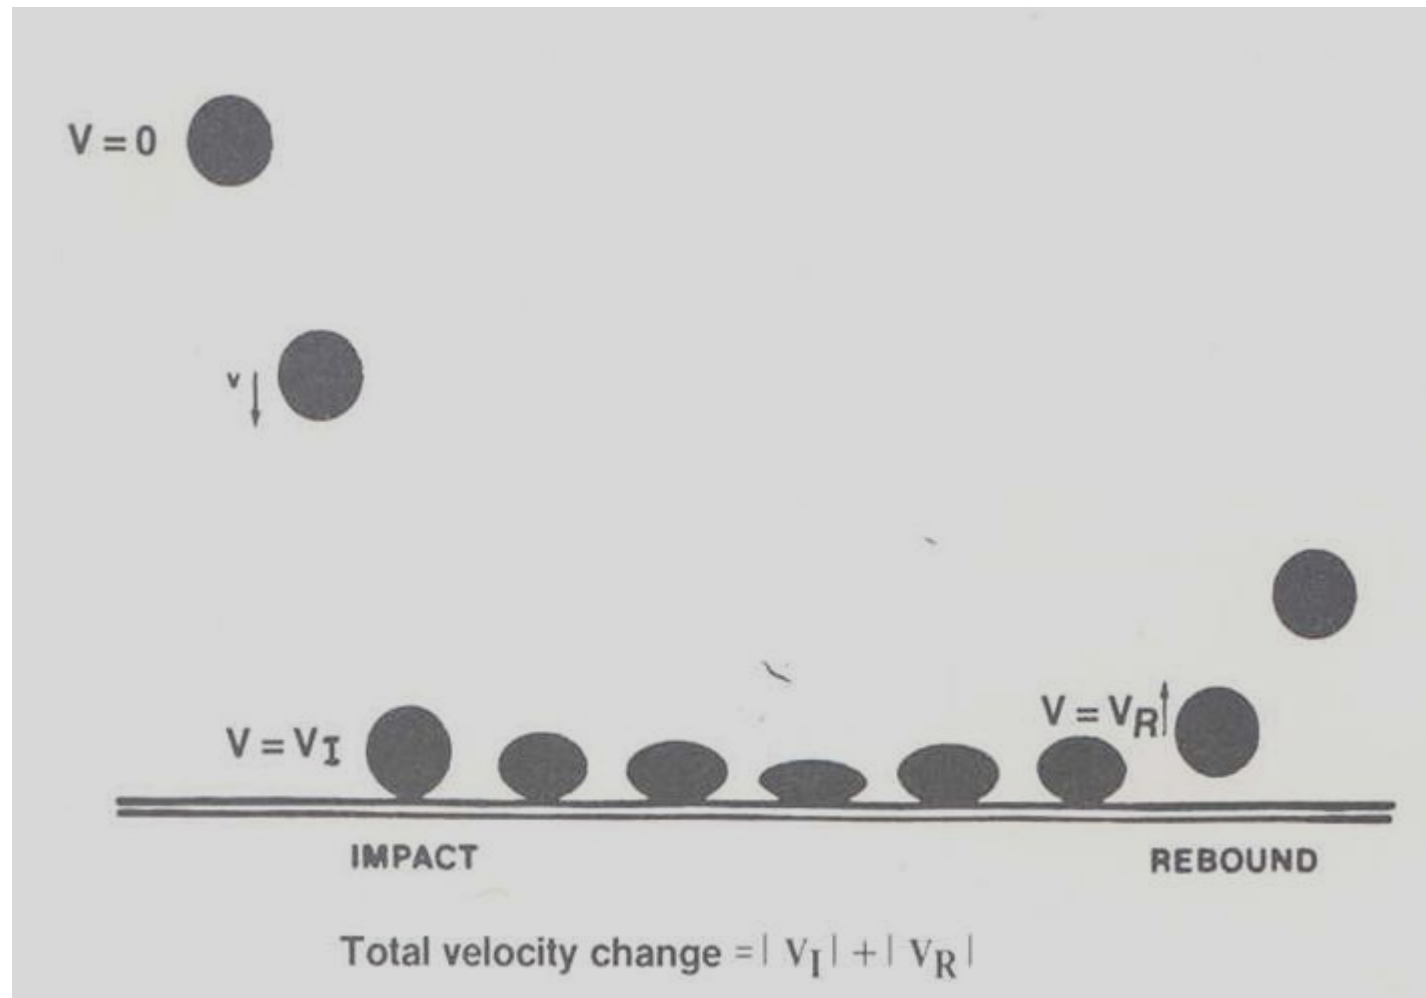

Figure 13.2 A falling package
- As is shown in Figure 13.2. A package will rebound a little or a lot depending on the nature of the package and the surface it hits.